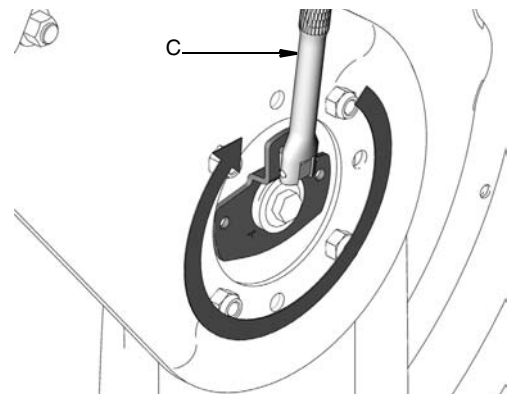

FIG. 26
4. Tighten spring by turning ratchet (C) clockwise. Refer to Table 1 to determine the number of full turns recommended for setting the spring tension for your hose reel model (FIG. 26).